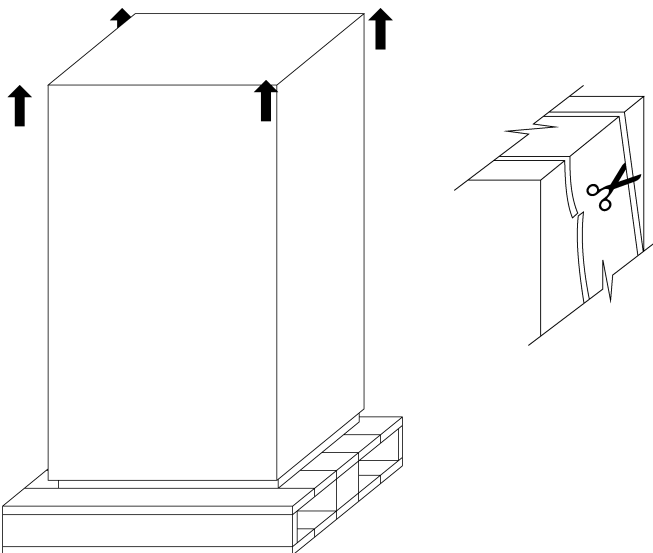

Fig 1 . Unpacking Process
- To unpack the refrigerated water bath, firstly cut the straps, then the box can be carefully slid upwards. (**Fig 1**)